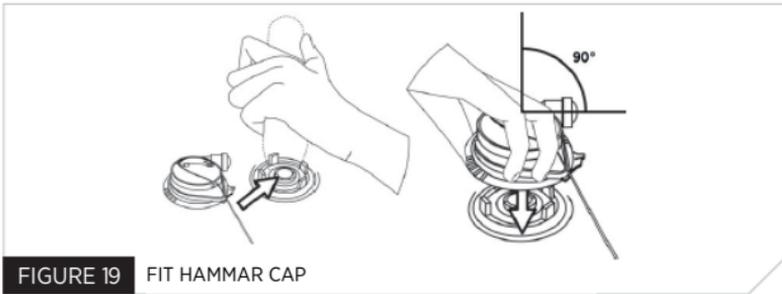

FIGURE 19 FIT HAMMAR CAP
7. Hold the CO₂ cylinder through the fabric of the PFD. Position the replacement cap with the water inlet valve pointing to the right and press firmly onto the inflator body and sealing ring (Fig. 19).